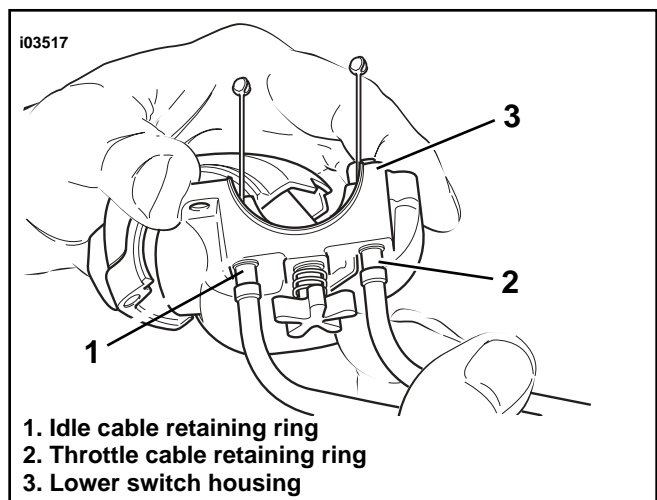

Figure 10. Install Cables to Lower Switch Housing
32. See Figure 10. Push the throttle-cable housing and retaining ring into the larger hole in the switch housing, in front of the tension-adjuster screw.